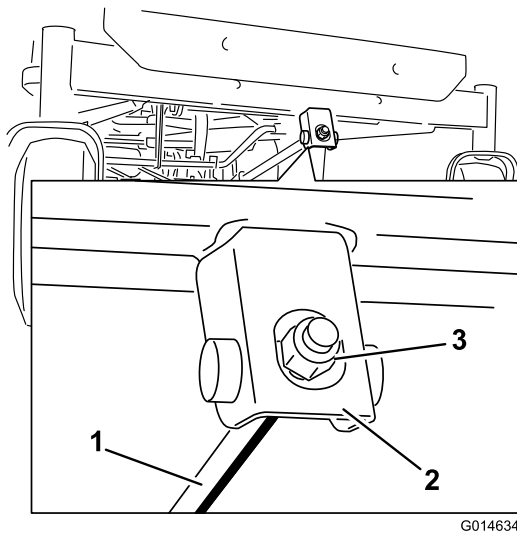

Figure 69
- A. Rotate the adjustment nut in the front of the mower (Figure 69).